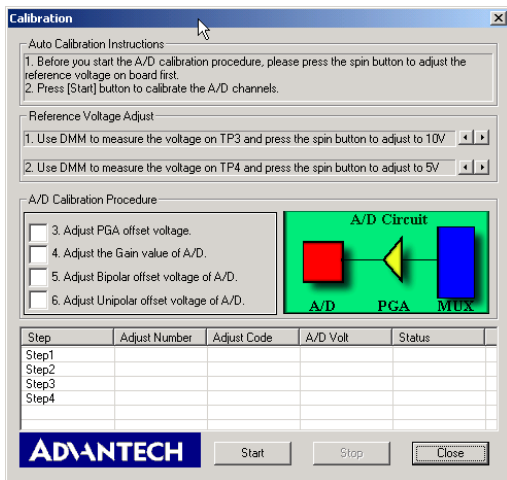

Figure 2.7: Auto-Calibration dialog box
Step 2: Click the Calibration Button to start the Auto-Calibration panel (Figure 2.7)